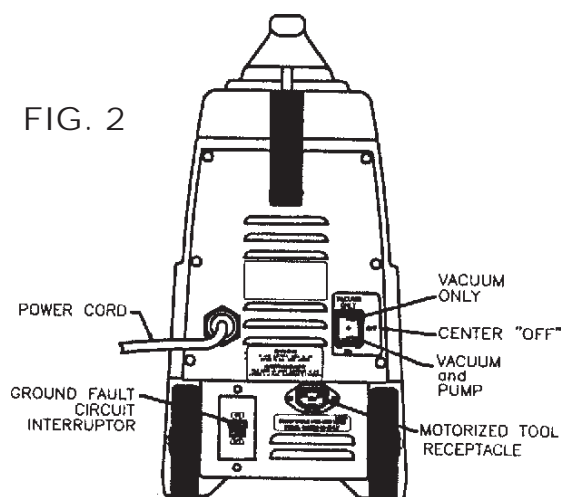

FIG. 2
This appliance must be grounded. If it should malfunction or breakdown, grounding provides a path of least resistance for electric current to reduce the risk of electric shock. This appliance is equipped with a cord having an equipment-grounding conductor and grounding plug. This plug must be plugged into the Carpet Spotter Model C46200-00 or C46000-00 as shown on page 4 fig. 2. The power supply cord plug on Model C46200-00 and C46000-00 must be plugged into an appropriate outlet that is properly installed and grounded in accordance with all local codes and ordinances. See grounding instructions below for Model C46200-00 and C46000-00.
3. Plug power cord into the receptacle located at the lower back portion of the machine. (see fig. 2 and fig. 2A).
4. For the brush and spray to operate, the switch on the "Gotcha!" (see fig. 2) must be on the double bar position (vac & pump) or the Ambassador "pump aux" switch must be on.